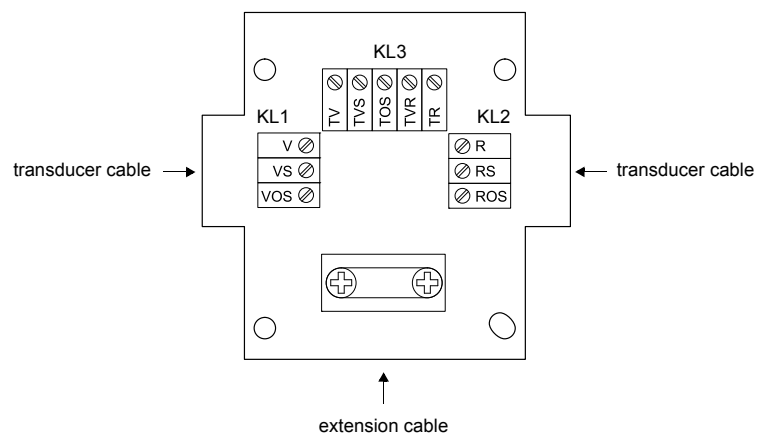

Fig. 7.15: Terminal board KFM1
- Connect the transducer cable to the terminals of the junction box (see Fig. 7.15, Tab. 7.10 and Tab. 7.11).